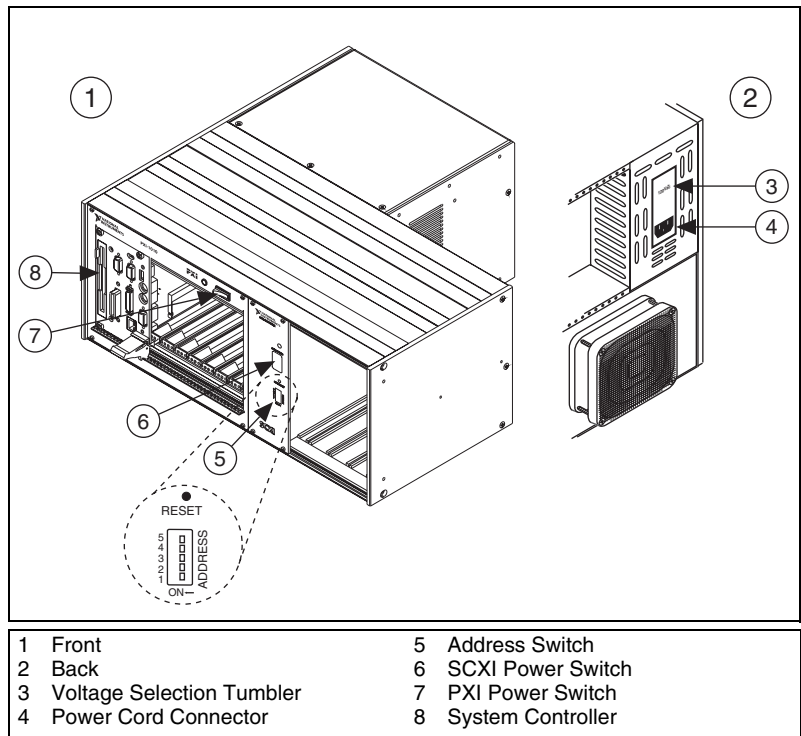

Figure 4. PXI/SCXI Combination Chassis Setup
2. Set the SCXI address switches positions to off. In Figure 4, all switches are shown in the off position.
If you are using an SCXI chassis, the chassis power switch is shown in Figure 3 of *Step 3. Set Up the Chassis*. If you are using a PXI/SCXI combination chassis, the PXI and chassis power switches are shown in Figure 4 of *Step 3. Set Up the Chassis*.